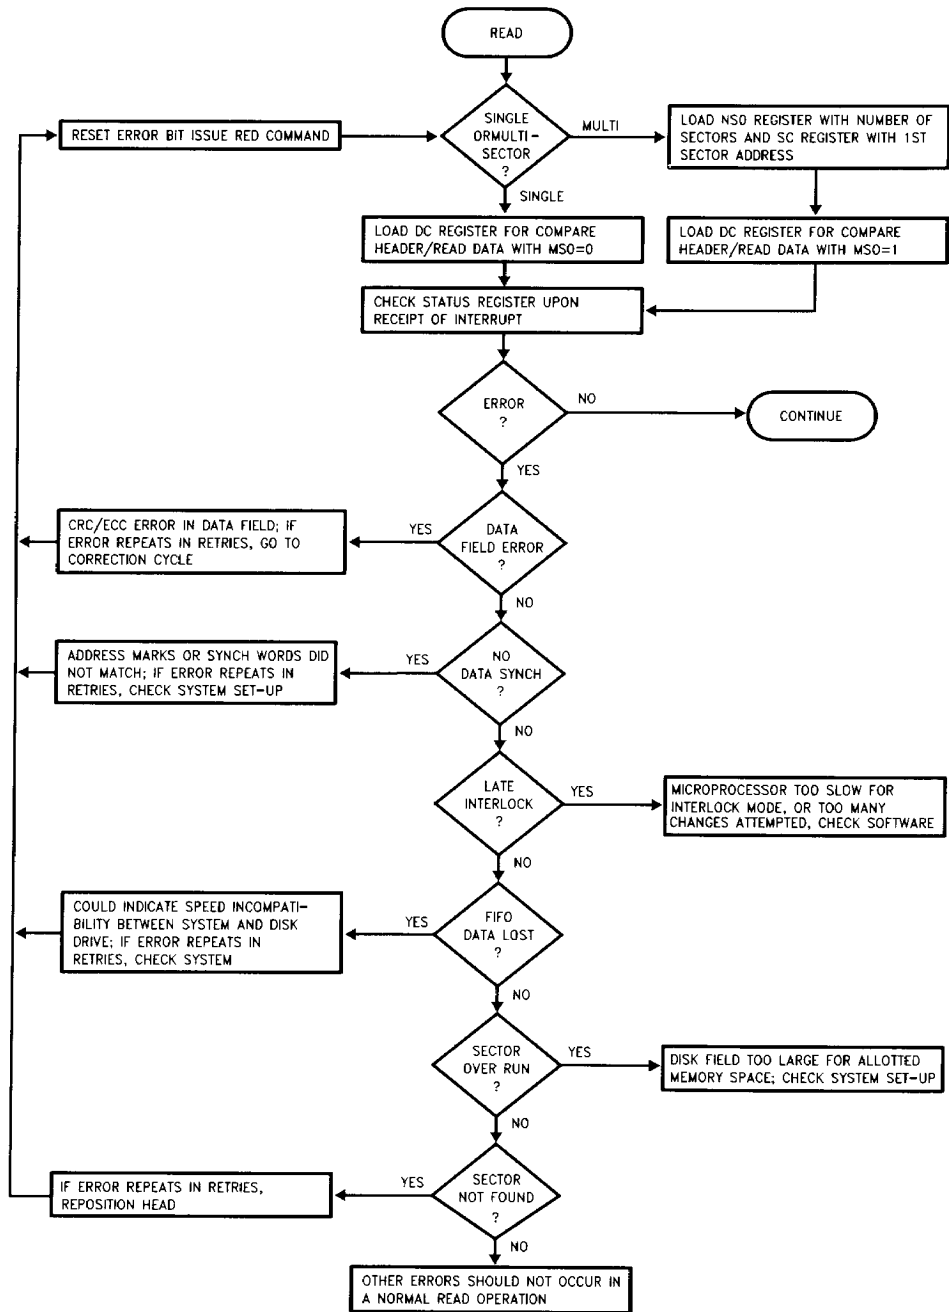

FIGURE 10. Simple Read Operation
For initiating Read/Write operations, the necessary format registers need to be loaded with the appropriate information to enable the DDC to identify the desired sector. Multi-sector operations will also require the Number of Sector Operations (NSO) counter and the Sector Counter (SC). Algorithms outlining the read/write operations are shown in *Figures 10 and 11*. For each of these, it is assumed that the parameters for the desired sector(s) have been loaded, and that the head is positioned over the proper track.